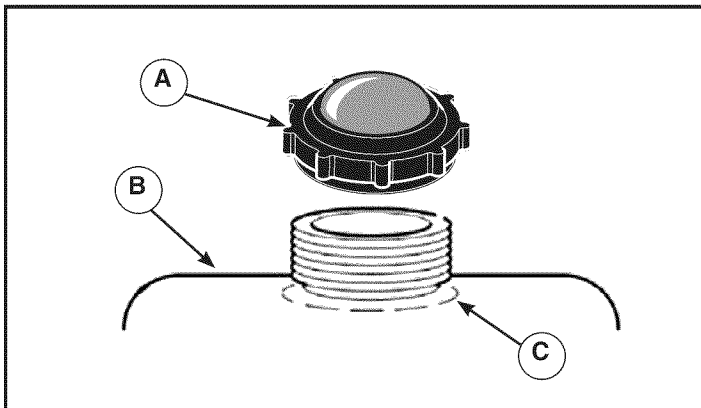

Figure 7
1. Clean the fuel cap area of dirt and debris. Remove the fuel cap (**A**, Figure 7). Also see **Features and Controls** section.